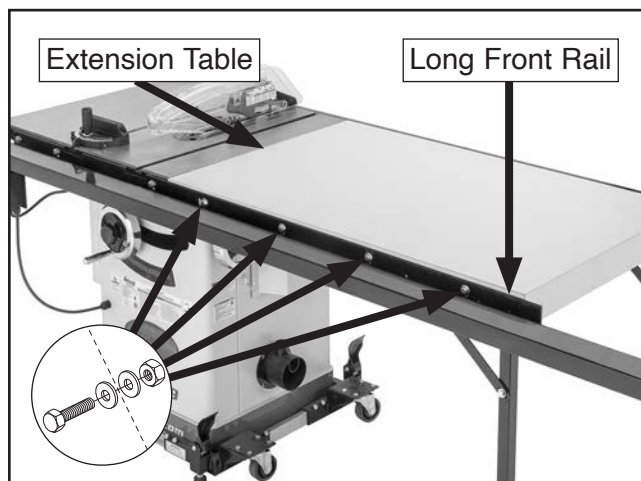

Figure 26. Extension table secured to long front rail.
13. Secure extension table to long front rail with (4) $\frac{3}{8}$ "-16 x $1\frac{3}{4}$ " hex bolts, (8) $\frac{3}{8}$ " flat washers, and (4) $\frac{3}{8}$ "-16 hex nuts (see **Figure 26**). Hand-tighten fasteners for now.